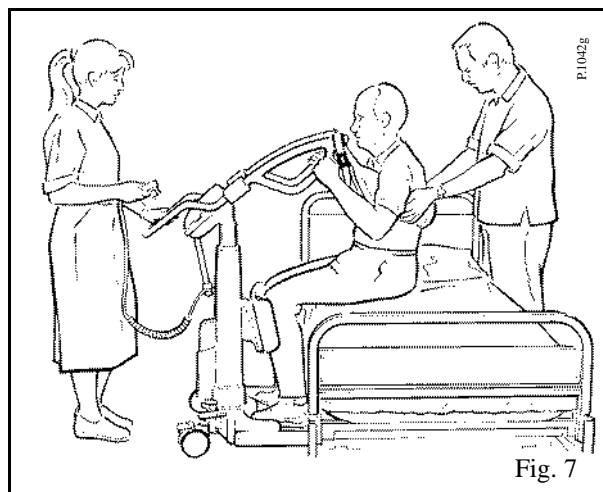

Fig. 7
- **Note:** If the patient lacks sitting balance and has been returned to the bed on the Lifter, a second attendant may be needed to support the patient while the sling is being removed. (See fig. 7)